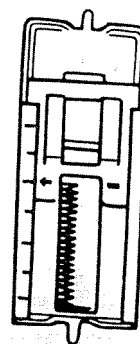

Fig. 40
6. With needle out of the fabric, turn pattern selector dial to "  ". Sew up left side of buttonhole until the white nylon slide runs into the back lip of the foot. At this position, the machine is feeding in reverse. (Fig. 40)